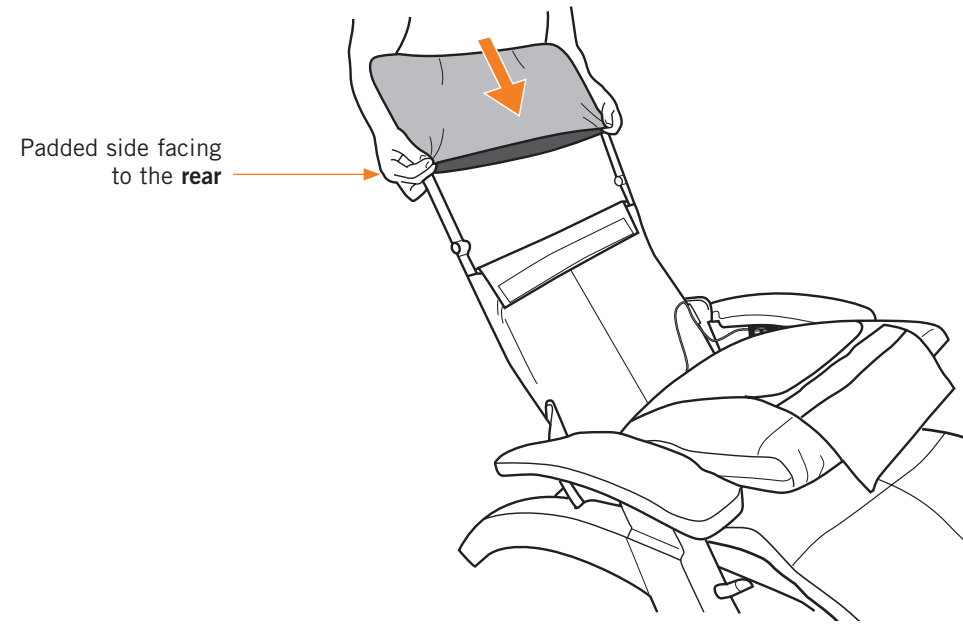

Fig.24
1. Slide the head sock over the headrest frame, with the padded side facing the to the **rear** (Fig.24).